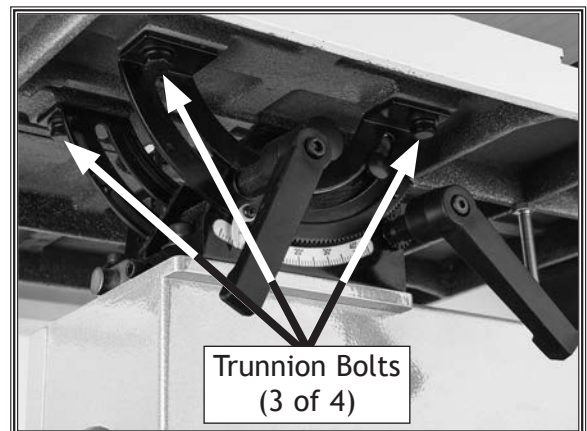

Figure 60. Location of trunnion bolts.
5. Loosen trunnion bolts that secure table (see **Figure 60**).
3. Determine which trunnion is on low side of table, then remove two trunnion bolts (see **Figure 60**) from low trunnion.